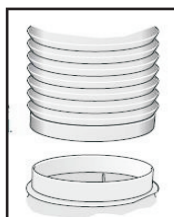

Fig. 5
Connection to exhaust air pipe (Fig. 5)
- Attach Ø150mm pipe directly to the air outlet and secure appropriately (Fig. 5).